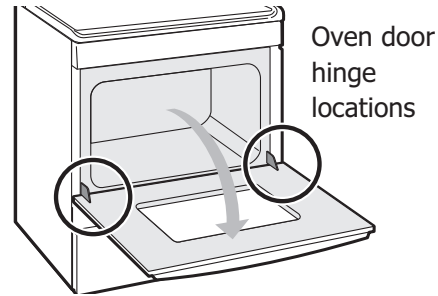

Figure 5: Door hinge location
1. Open oven door completely, horizontal with floor (See Figure 5).
3. Fully open the oven door, horizontal with floor (See Figure 5).